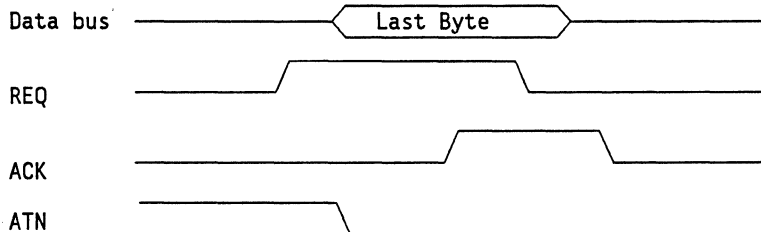

Fig. 4.3.3 ATN signal resetting in MESSAGE OUT phase
- On sending the last byte during execution of the MESSAGE OUT phase in hardware transfer mode. (See Figure 4.3.3.)